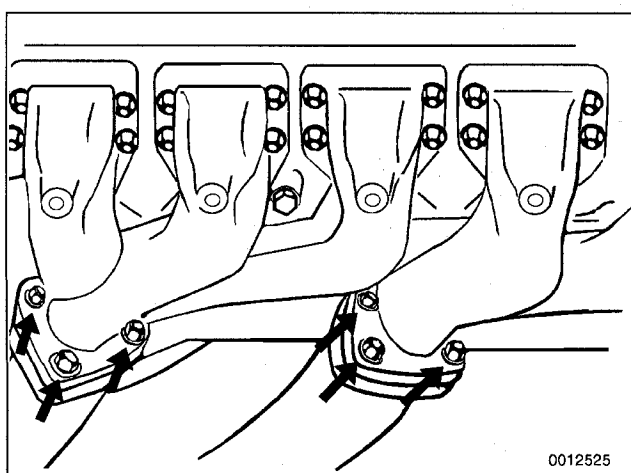

Fig. 16. Front exhaust pipe to exhaust manifold mounting nuts on 6-cylinder engine (arrows).
24. Remove front exhaust pipe from exhaust manifold. See Fig. 16.